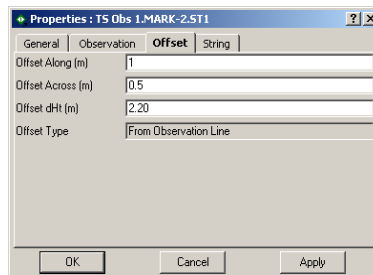

Figure 4-70. TS Properties – Offset Tab
- On the **Properties** dialog box, click the **Offset** tab (Figure 4-70).